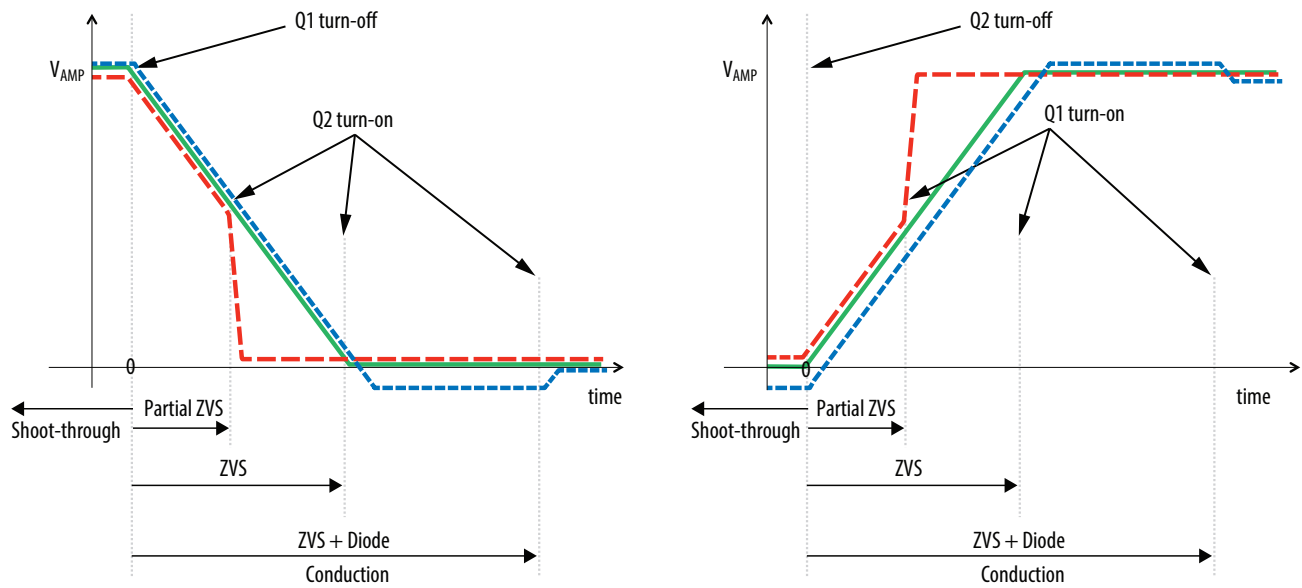

Figure 8: ZVS timing diagrams
Setting the correct time to establish ZVS transitions is critical to achieving high efficiency with the EPC9511 amplifier when operating at high frequency. This can be done by selecting the values for R71 and R72 or P71 and P72 respectively. This procedure is best performed using a potentiometer installed at the appropriate locations (P71 and P72) that is used to determine the fixed resistor values. The timing MUST initially be set WITHOUT the source coil connected to the amplifier. The timing diagrams are given in figure 8 and should be referenced when following this procedure. Only perform these steps if changes have been made to the board as it is shipped preset. The steps are:
6. While observing the oscilloscope, adjust the applicable potentiometers to achieve the green waveform of figure 8.